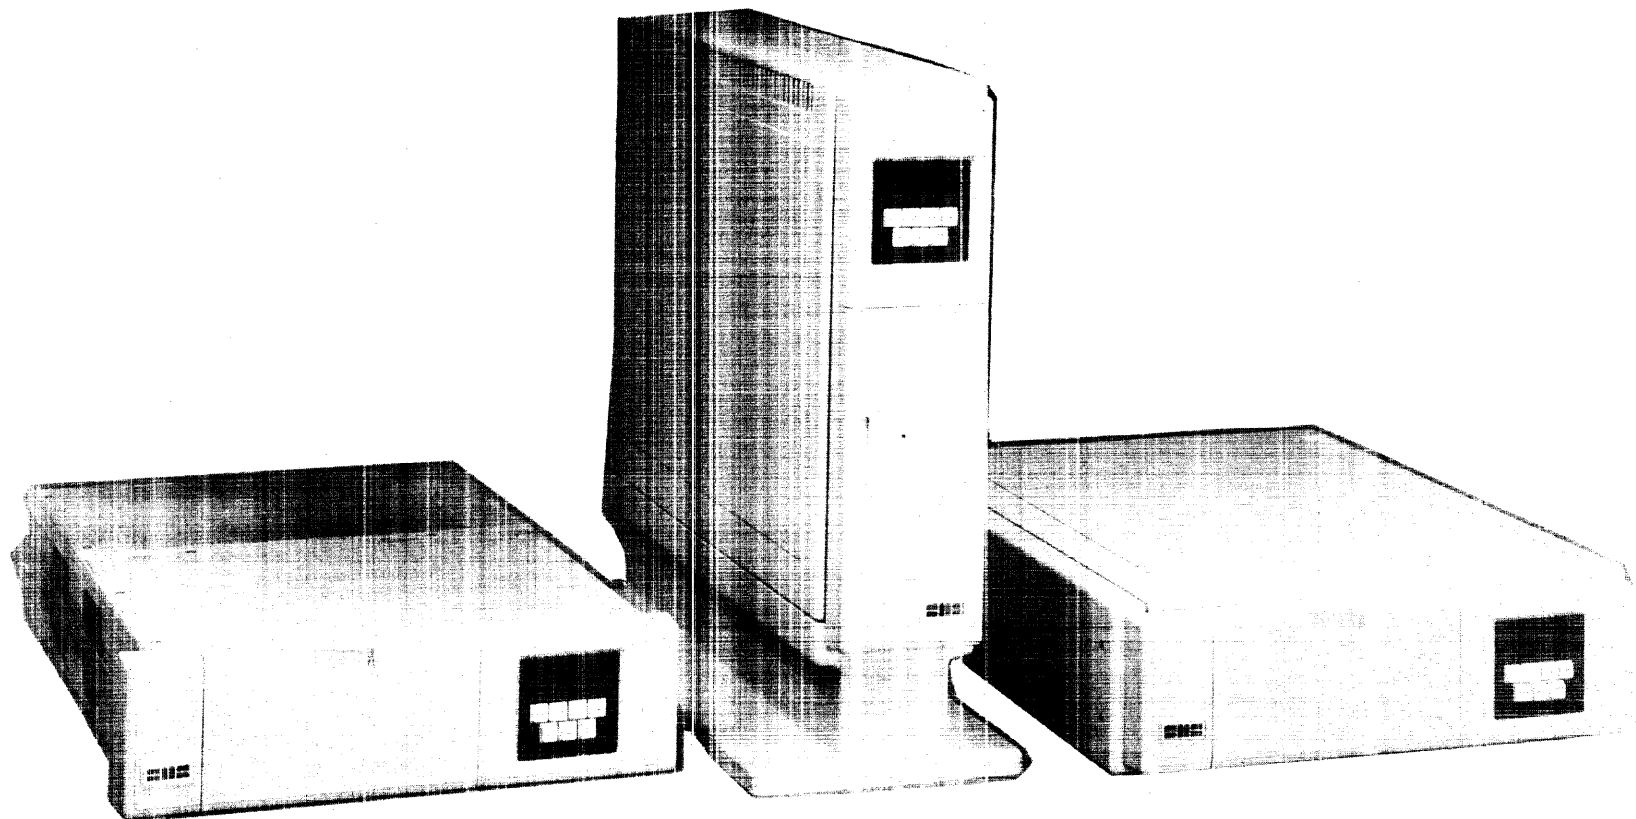

Fig. 1-1 SMS 1000 Microcomputer System
The SMS 1000 (Figure 1-1) is a single- or multiple-user micro-computer system based on the DEC LSI-11 Q-bus architecture. It is made in either a rack-mount, table-mount or a floor-mount design. The basic system consists of (1) a six-slot Q-bus backplane in which user-selected CPU's, memory cards, and other modules can be installed; (2) a front panel with a sixteen-character display and switches for controlling the SENSE Monitor; (3) the system power supply; and (4) a system-integration circuit board called the Foundation Module that includes a multifunction peripheral controller, two RS-232 serial ports, and a set of special programs known as the SENSE Monitor. SENSE reports system status, performs a wide variety of diagnostic and utility functions and enables rapid changes in system parameters. The SENSE functions can be carried out either from your video display terminal or from the system's front panel 16-character display and controls.